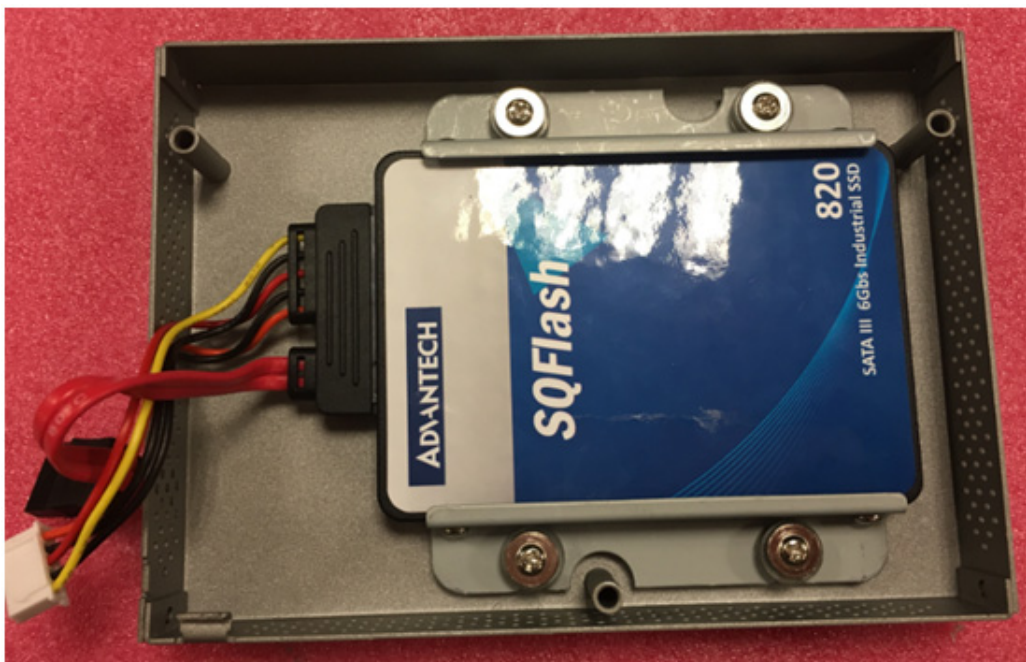

Figure 2.10 Installing the HDD into the HDD cover
3. Position it into the HDD cover. (See Figure 2.10)